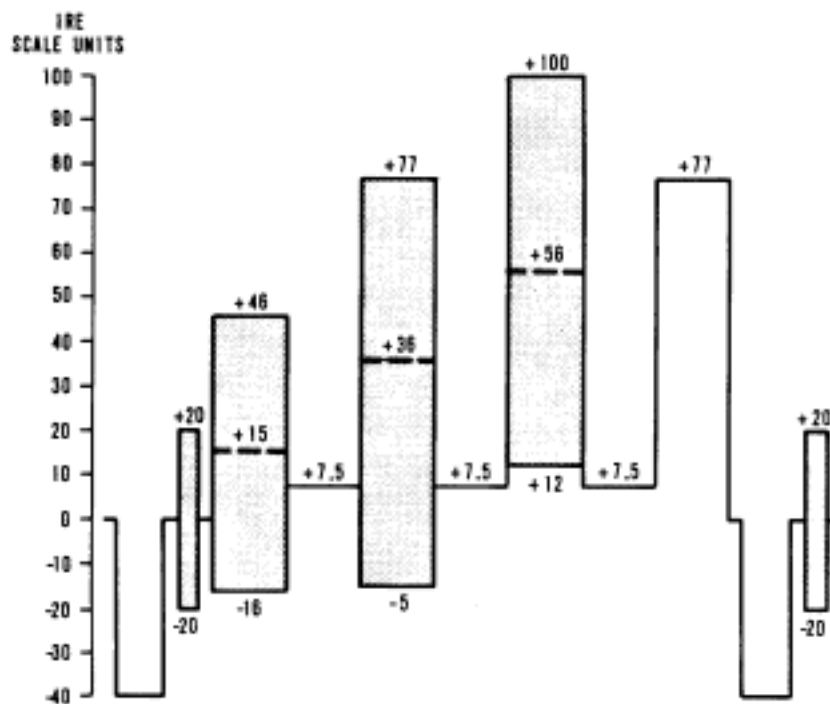

Figure 3 – One line of chroma set signal, X-X'
3.2 The chroma set signal is a small band of bars displayed in place of the bottom portion of normal color bars. The bars are displayed in reverse order. Only the four bars which contain blue are necessary; the remaining three bars may be black. Figure 3 shows the appearance of one line of the chroma set signal on a waveform monitor.